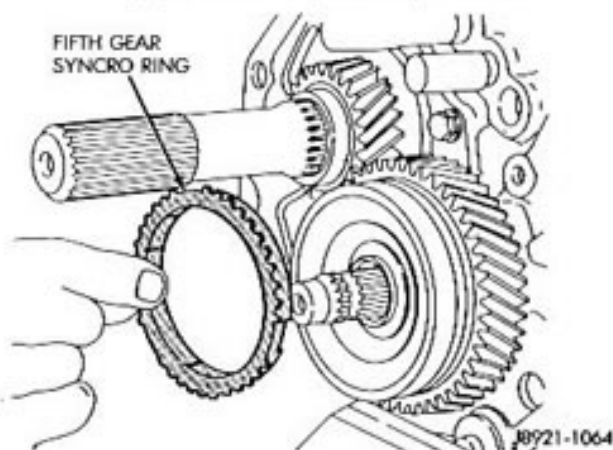

Fig. 34 Removing Fifth Gear Synchro Ring
(15) Remove the fifth gear synchro ring (Fig. 34).